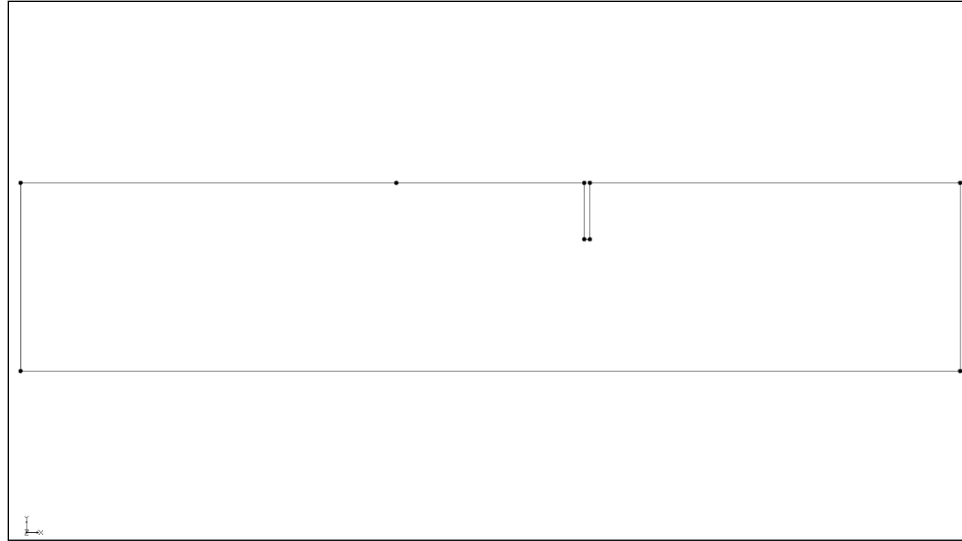

Figure 4 Final view with all the arcs created
2. Using the **Create Arc**  tool, create the arcs as they are shown in Figure 4.